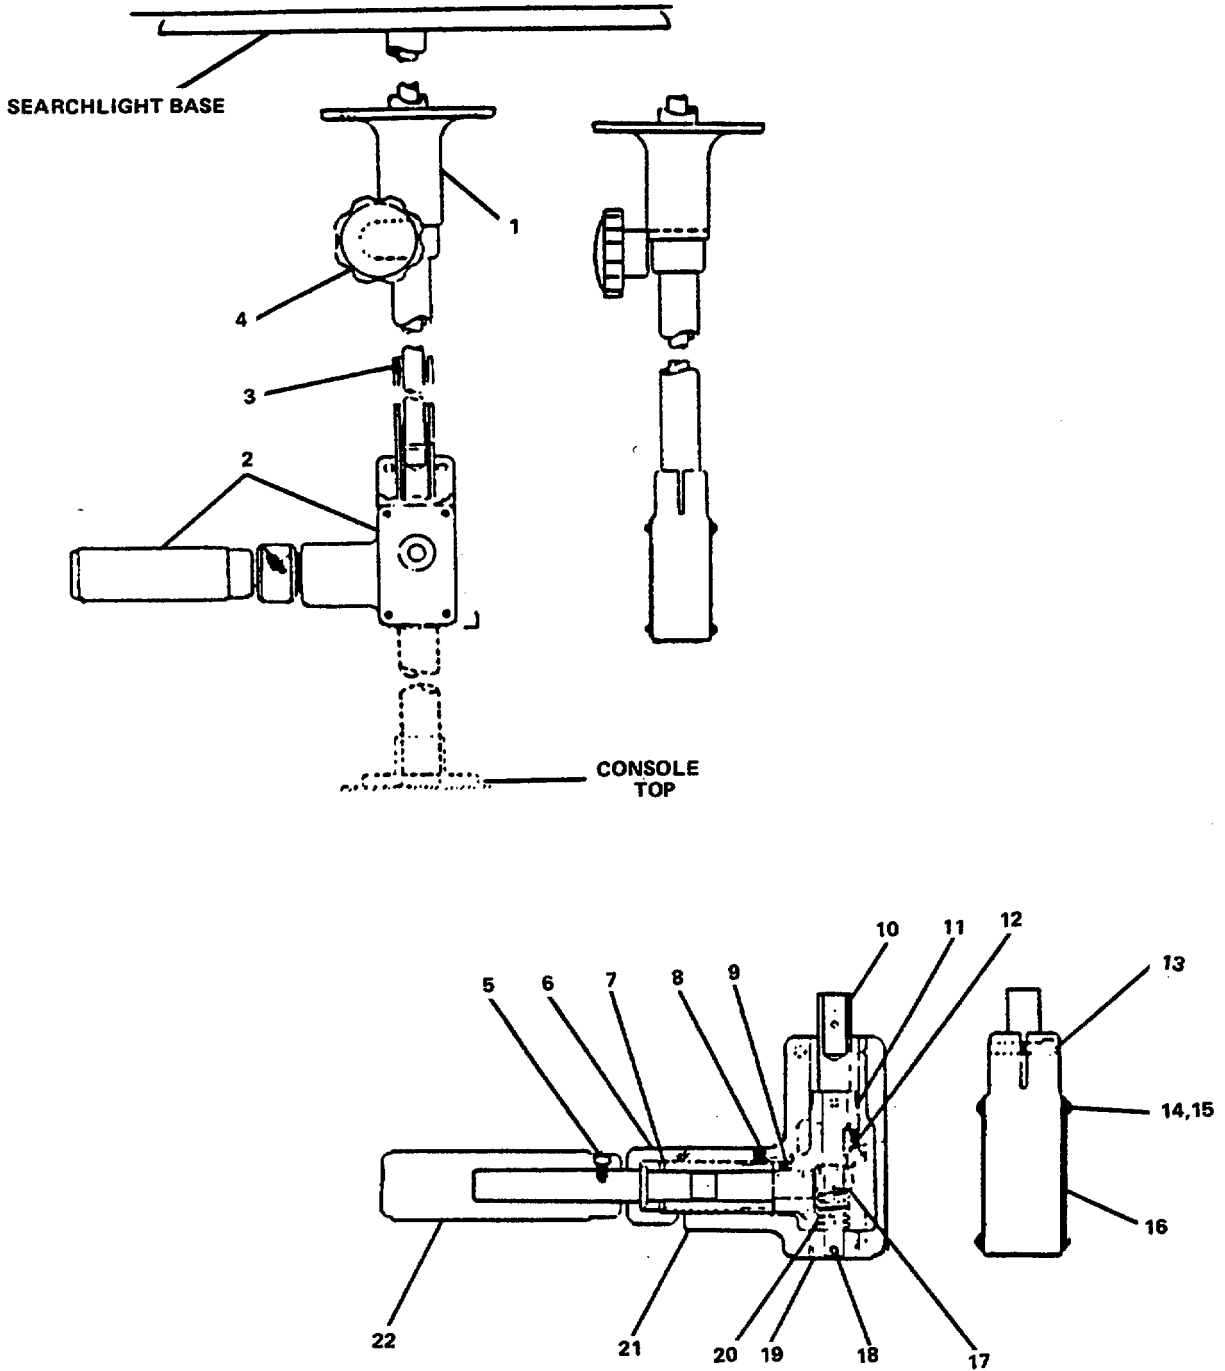

FIGURE 3-53. Searchlight Leveling Gear Assembly.
- f. Install preformed packing (21).
- g. Install lubrication fitting (13).
- h. Install yoke assembly (16), sealing washer (12) and spacer nut (11).
- i. Install preformed packing (23) and pinion (24).
- l. Install headless straight pin (10).
- k. Install clamp (3), lockwasher (2), and machine screw (1).
1. Install lubrication fitting (8), spacer (9), and bearing (7).
- m. Install flat washer (4), lockwasher (5), and hexagon capscrew (6).
**3-52. Repair Searchlight Level Gear Assembly. (Figure 3-53)**